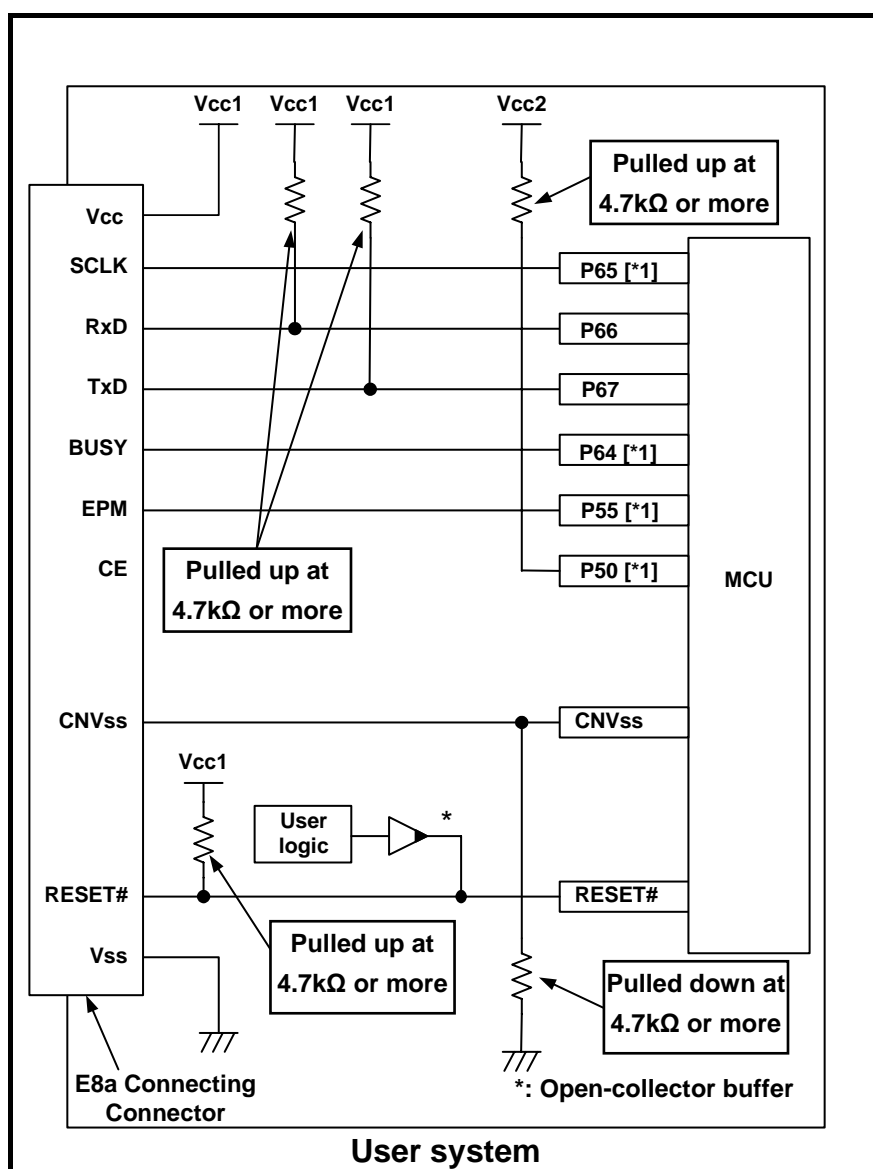

Figure 4.3 Example of an E8a Connection
- Dual power supply and single-chip mode (R32C/111 (100-pin) only): See Figure 4.3.